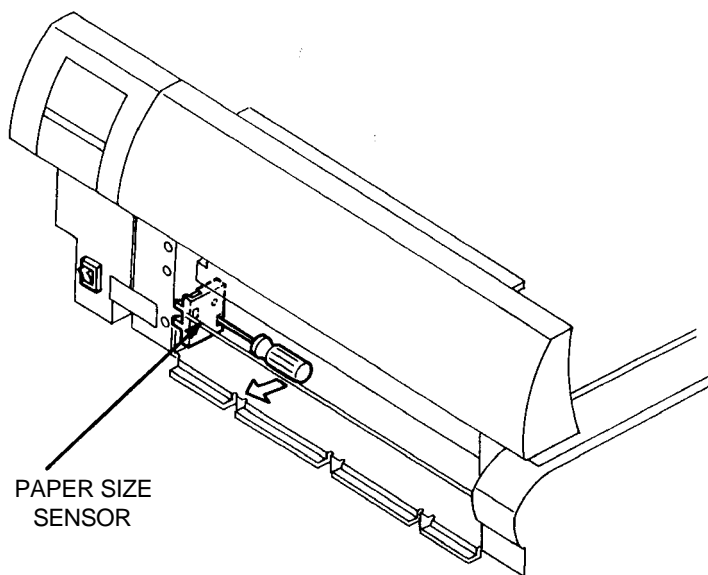

FIGURE 4-17. PAPER SIZE SENSOR REMOVAL
9. Use a small blade screwdriver to release the three clips securing the paper size sensor. See Figure 4-17.